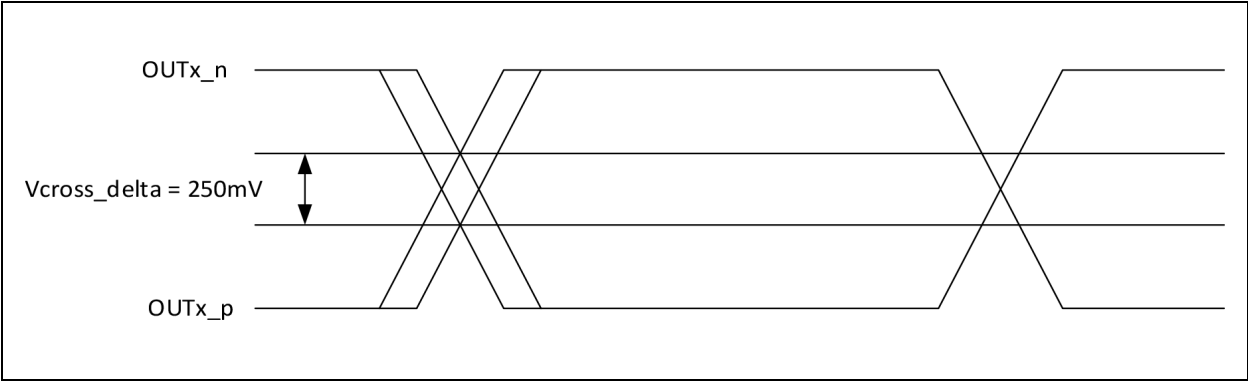

FIGURE 3-2: Single-Ended Measurement Points for Delta Cross Point.
- 10:** Defined as the total variation of all crossing voltages of Rising CK and Falling CK# This is the maximum allowed variance in V_{CROSS} for any particular system. See Figure 3-2.